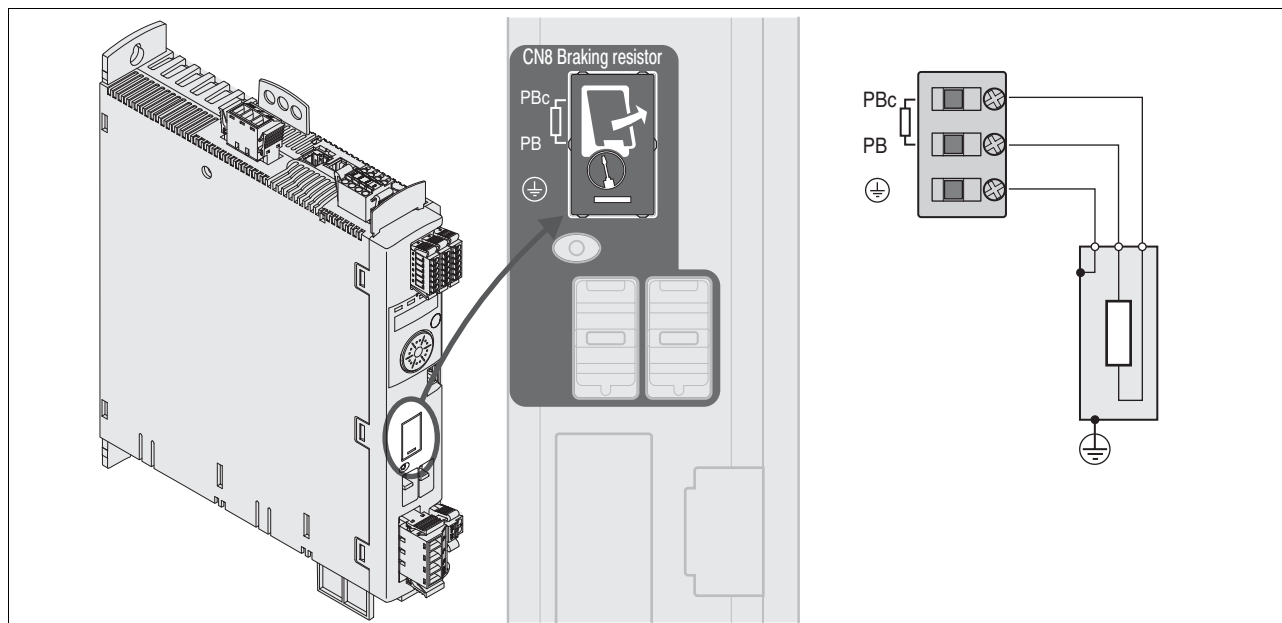

Figure 6.9 Wiring diagram external braking resistor
- ▶ Ground the ground connection (PE) of the braking resistor.
- ▶ Connect the external braking resistor to the device, see Figure 6.9. Note the tightening torque specified for the terminal screws.